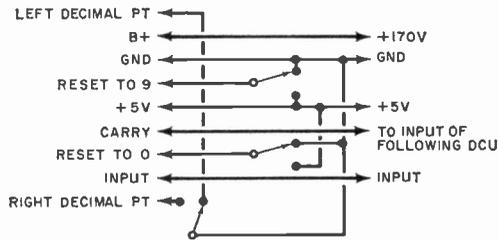

Fig. 6. Prior to wiring them into chassis, test individual DCU's using this circuit.
**Testing.** Connect the DCU to a test circuit such as that shown in Fig. 6. Operating the zero-reset switch should cause the Nixie tube to indicate the numeral zero. Operating the nine-reset switch should produce a nine indication on the tube. (The nine-reset connection is used in "nines complement" decimal operations.) Operating the decimal-point switch should cause either the right or the left decimal point to glow. Reset the unit to zero before making the next test.